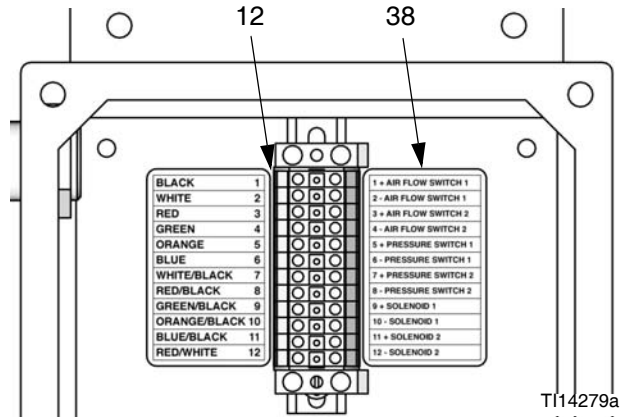

FIG. 5. Connect Pressure Switch to Terminal Strip
2. Connect the wires from PS#1 to the right side of the terminal strip (12) pins 5 (+) & 6 (-), as indicated by the label (38). See Fig. 5 and Table 1.
3. If using a second gun flush box, connect the wires from PS#2 to the right side of the terminal strip (12) pins 7 (+) & 8 (-), as indicated by the label (38). See Fig. 5 and Table 1.